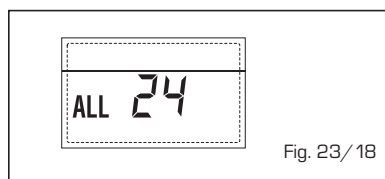

Fig. 23/18
- SOLAR PROBE ANOMALY STORAGE TANK (S2) "ALL 25" (fig. 23/19)